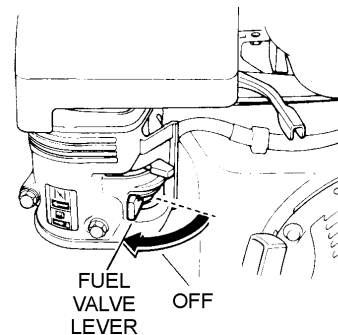

Figure 16. Fuel Valve Lever (OFF)
3. Place the fuel shut-off lever (See Figure 16) in the OFF position.